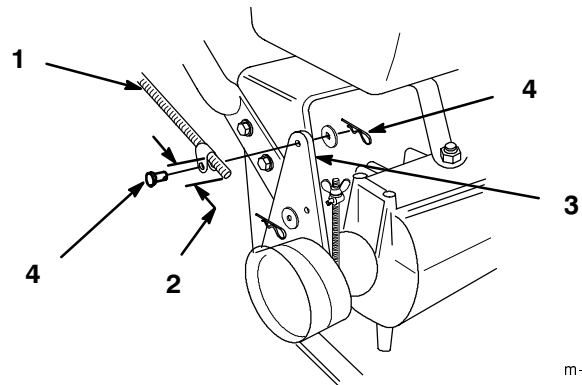

Figure 8
1. Thread rod fittings equal distance onto each control rod. For a starting point thread on approximately 2 in. (51 mm) (Fig. 8).
2. Slide clevis pins through rod fittings and mounting holes in idler brackets (from outside) (Fig. 8). Secure with washers and hairpin cotters (Fig. 8).